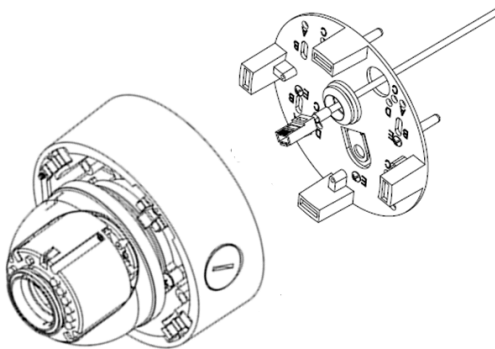

Figure 4
7. Align the hole on MegaDome® G3 camera with the hole on mounting plate, and install the grommet on camera housing as shown in Figure 4.